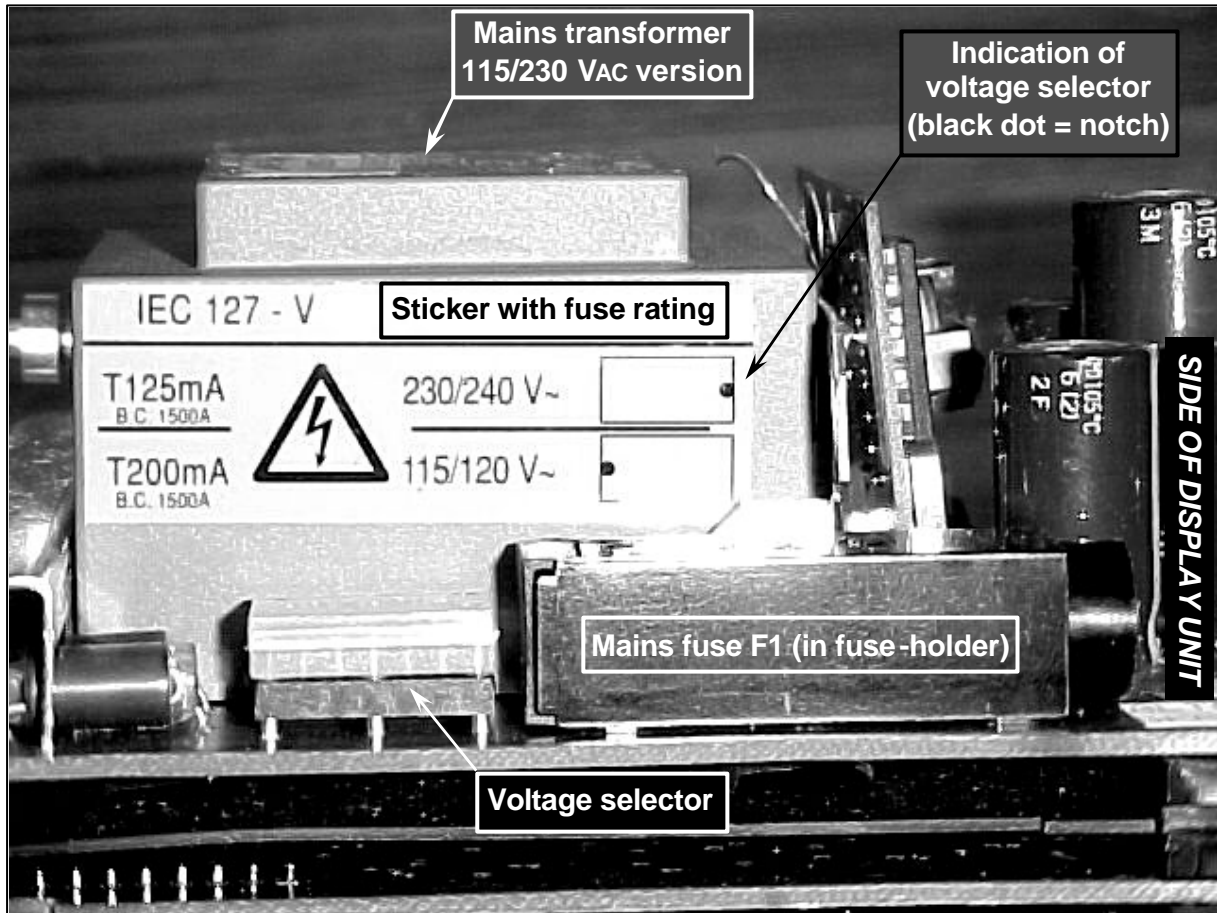

Figure 6: Power supply version 115/230 V AC.
3. The fuse-holder, in which the mains fuse in accordance with IEC 127-2 size $\varnothing 5 \times 20$ mm, (breaking capacity high) is mounted, is now accessible to replace the defect mains fuse **F1** by a new fuse with the **same rating**. The rating depends on the voltage setting of the power supply unit. (**T200mA** for 100 or 115V AC and **T125mA** for 200 or 230 V AC). See also the yellow sticker that is glued on the mains transformer as shown in Figure 6 on the next page.
5. The voltage setting of the power supply can be changed by turning the dummy dual-in-line block (i.e. **voltage selector**, see Figure 6 on page 6) over 180° in its socket. The position of the notch on the dummy dual-in-line block indicates the voltage setting. Also see the sticker that is mounted on the mains transformer (see Figure 6).